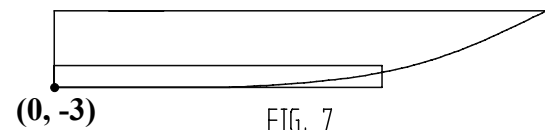

FIG. 7
Step 10. To indicate the position of the rectangle in the Top View click point **(0, .7)**, **Fig. 7**.
Step 13. To indicate the position of the rectangle in the Side View click point **(0, -3)**, **Fig. 7**.